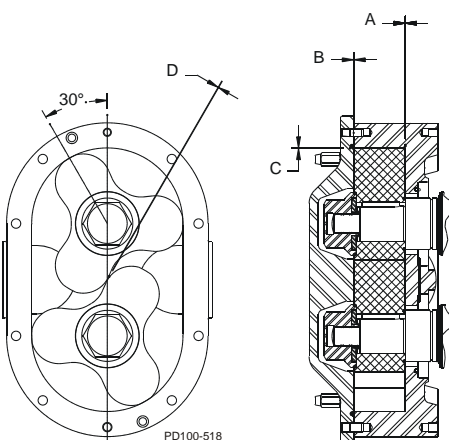

Figure 54 - Measure Clearance
9. Measure the rotor backface clearance (Figure 54, item A) through the port or from the front. For optimum pump operation, the backface clearance for both rotors must be the same and must be ± 0.0005 " of the value found in Table 7, "Standard Rotor Clearance," on page 41.
10. Check the rotor front face clearance (Figure 54, item B).
11. Check the rotor to body clearance (Figure 54, item C).